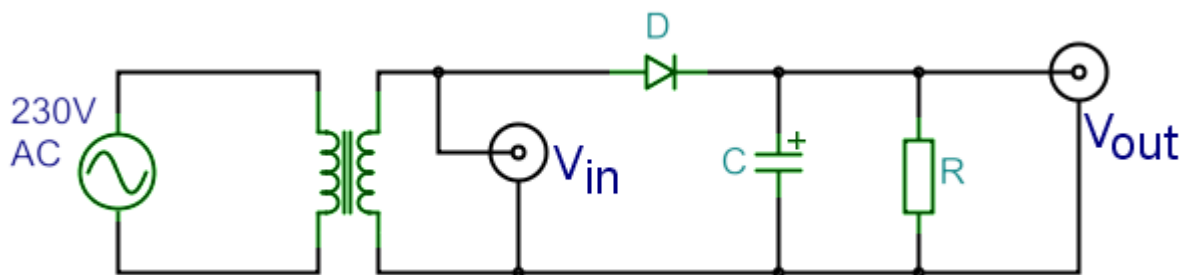

Figure 4. Half-wave rectifier circuit.
3.2 Build the circuit from figure 4. The R load resistor's value is **3.6k Ω** . Connect the signal V_{in} to channel 1 of the oscilloscope, this is the input of the circuit. Connect V_{out} to channel 2 of the oscilloscope, this is the output.